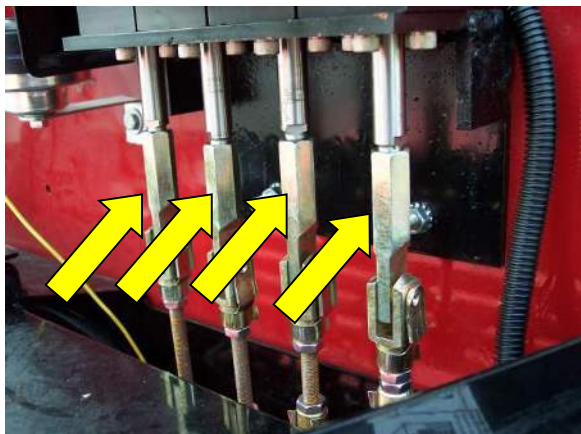

FIG. 3b
- a. Screw valve rod end to each of the actuators as shown (FIG. 3b)